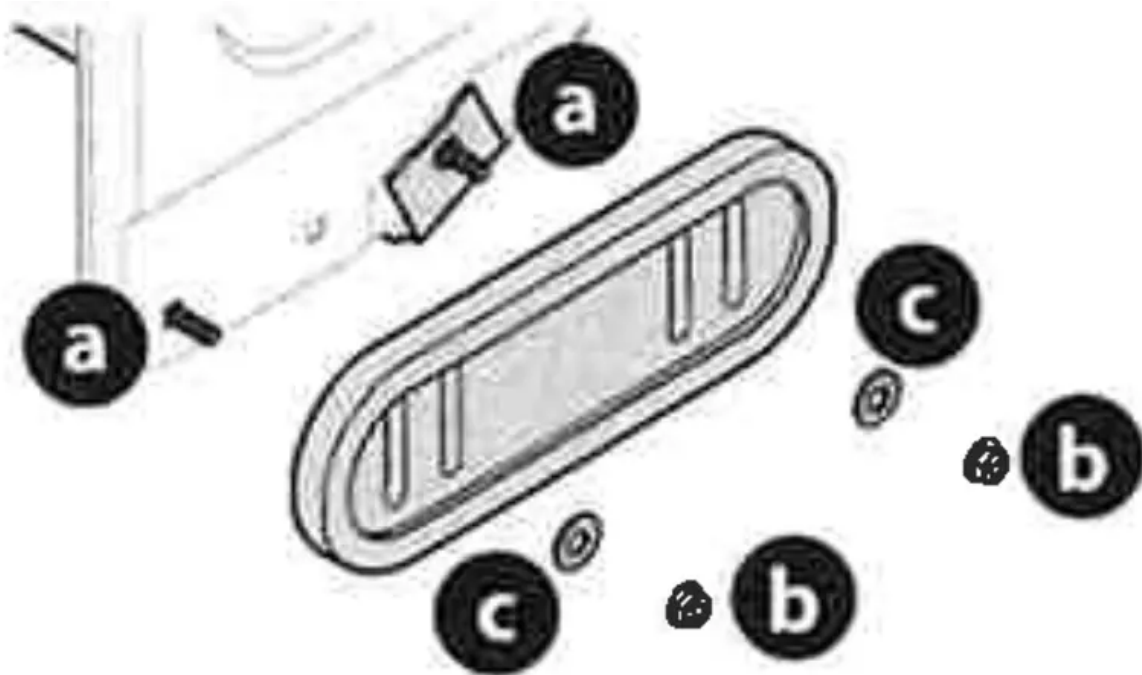

Figure 76
2. Rotate and reassemble new skid shoes with four carriage bolts(a)(two on each side) and hex flange nuts (b) and flat washers(c) (Figure 76).